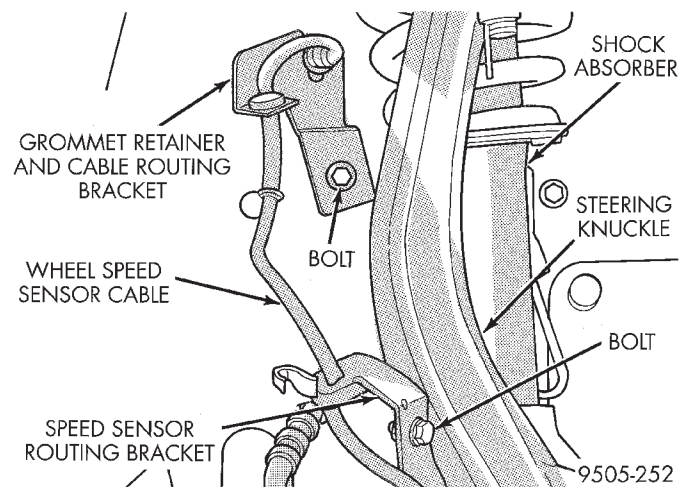
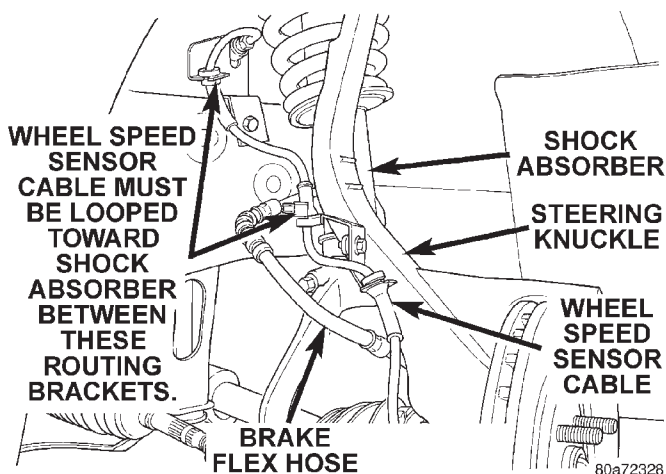

Fig. 32 Speed Sensor Cable Routing Brackets
Fig. 36 Correct Front Wheel Speed Sensor Cable Routing
(1) Raise vehicle on jack stands or centered on a frame contact type hoist. See Hoisting in the Lubrication and Maintenance section of this manual, for the required lifting procedure to be used for this vehicle.
(2) Remove the tire and wheel assembly from the vehicle.
(3) Remove the speed sensor cable routing bracket (Fig. 32) from the steering knuckle. Remove the wiring harness sealing grommet retainer and speed sensor routing bracket from the inner fender.
(2) Install the speed sensor cable assembly grommet into the front inner fender (Fig. 32). Install speed sensor cable grommet retainer/routing bracket on the inner fender of the vehicle and install and securely tighten attaching bolt (Fig. 32).
CAUTION: When installing the wheel speed sensor cable routing bracket on the steering knuckle, (Fig. 32) the speed sensor cable must be looped toward the shock absorber as shown in (Fig. 36). If speed sensor cable is not routed in this direction it will rub against the tire or wheel, damaging the speed sensor cable.